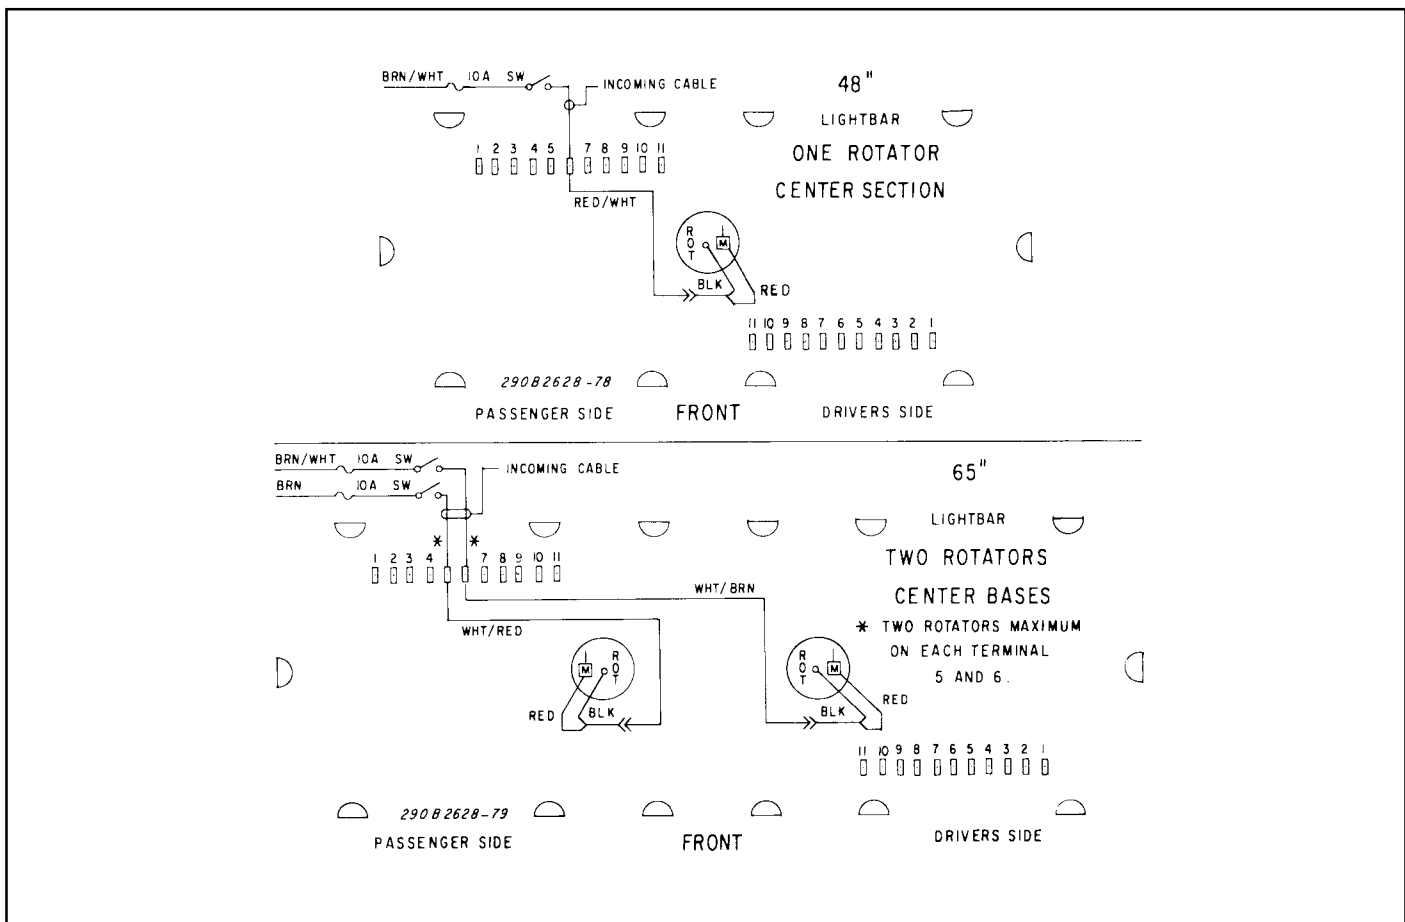

Figure 3.
1. If adding any lighting option, refer to the instructions supplied with the option and see the applicable wiring diagram in figure 3.